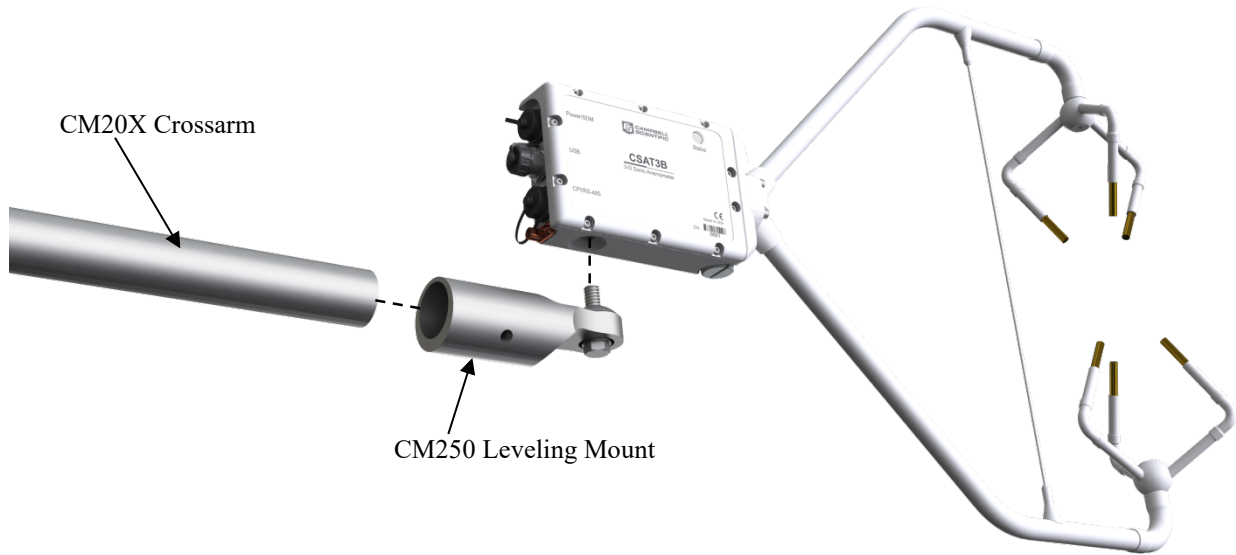

FIGURE 4-2. CSAT3B mounting
2. Mount the CM250 leveling mount to the end of the crossarm as shown in FIGURE 4-2.
3. Use the captive bolt on the CM250 to mount the CSAT3B (FIGURE 4-2). The orientation of the CSAT3B should be level and pointing in the direction of the prevailing wind.